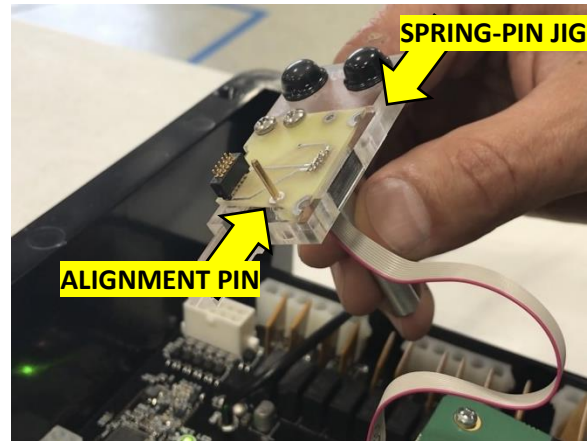

Figure 5
- On the programming device, there will be a gray ribbon cable with the spring-pin programmer jig shown in figure 5. Hold the jig using the metal handle as shown below. Take note of the alignment pin for the next step. Be very careful not to damage or bend the pins.